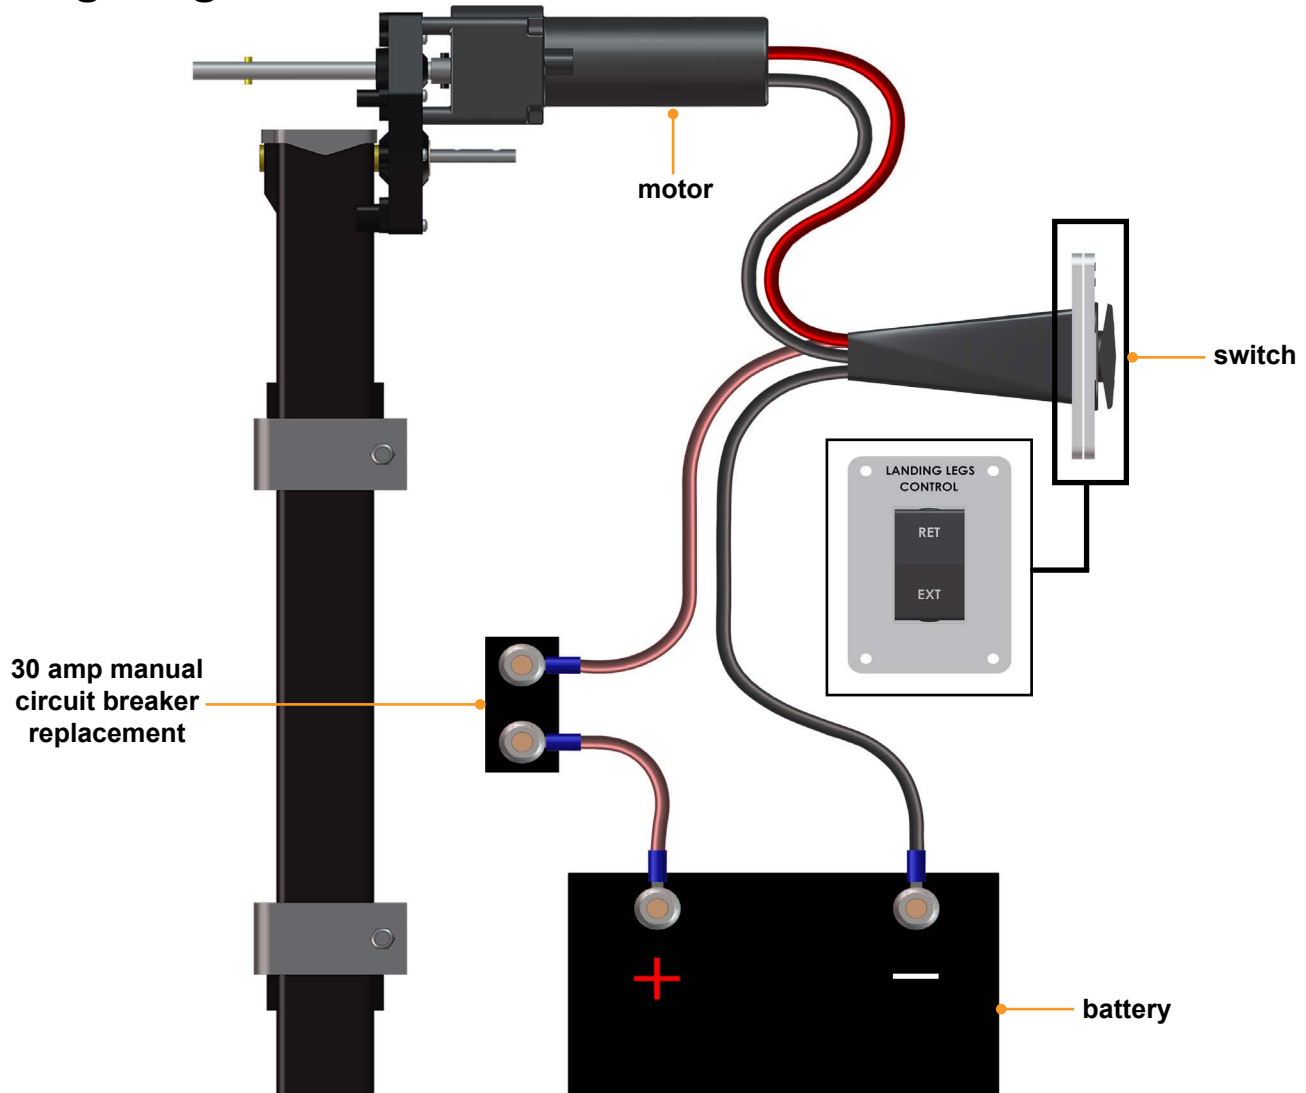

Fig.9
14. Wire the landing gear motor and switch as shown in the wiring diagram (Fig.9).